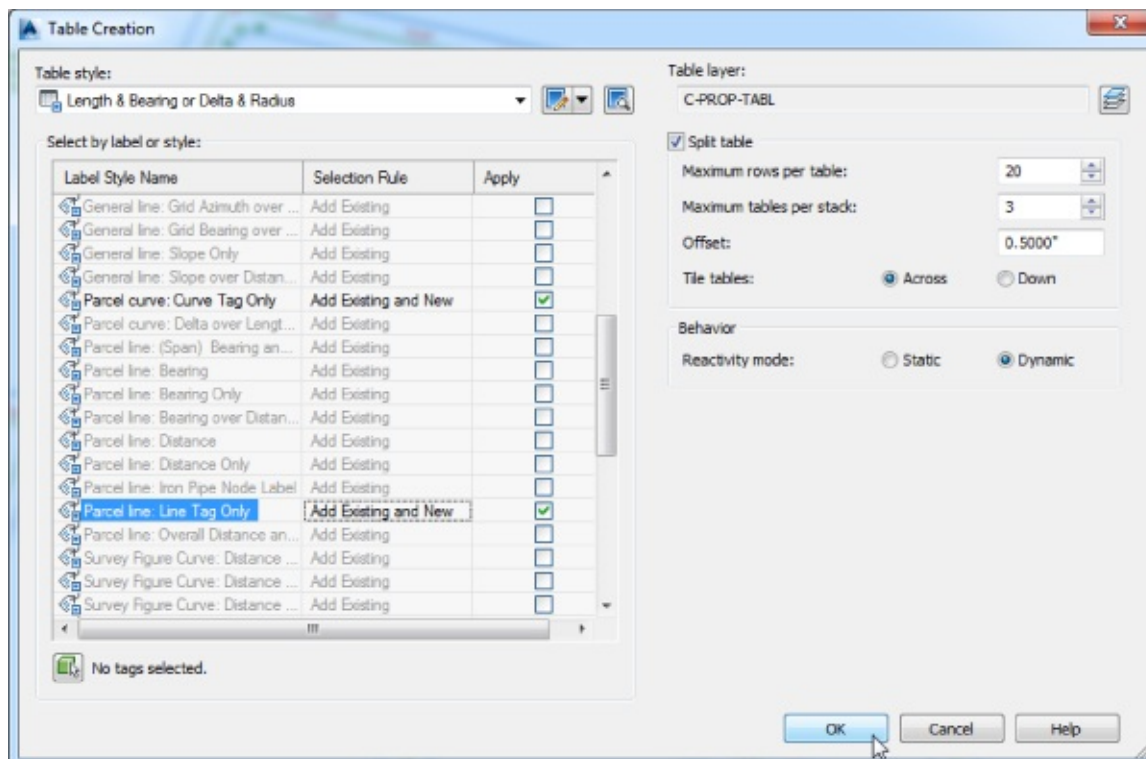

Figure 5.65 The Table Creation dialog
6. The Add Existing And New option will ensure that the table updates as more labels fitting this criteria are added to the drawing. Keep the default values for the remaining options. The dialog should look like Figure 5.65.